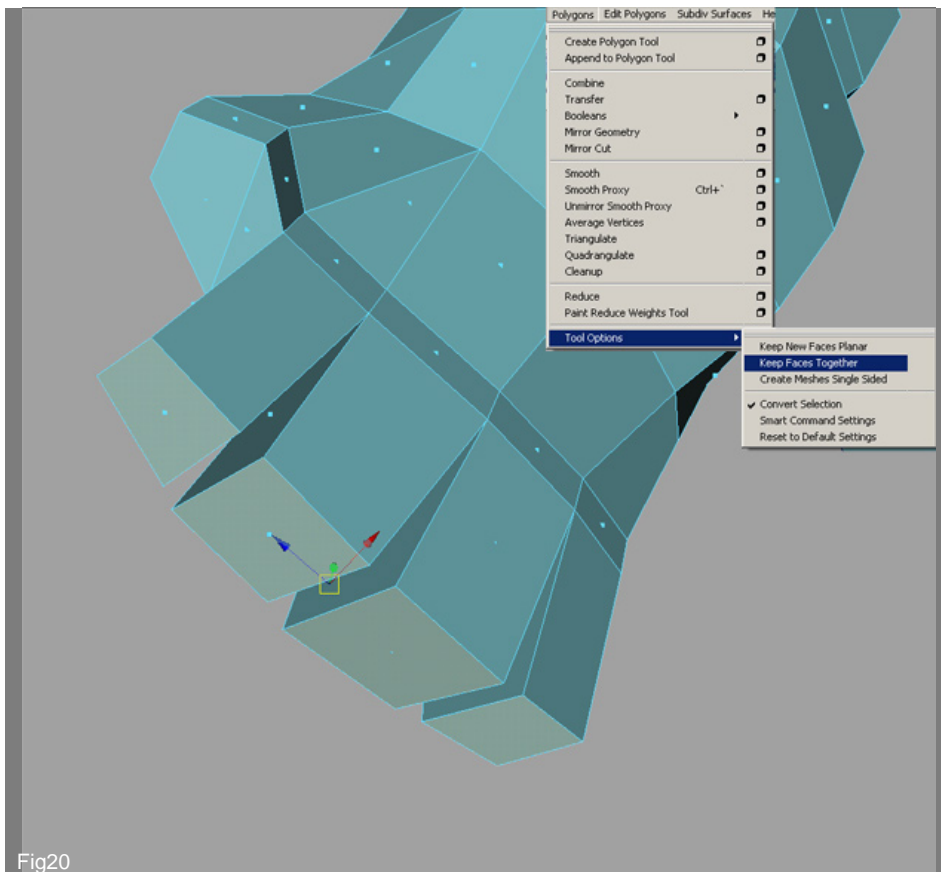

Fig20
19. Now we can start extruding the fingers. Before doing this, be sure that you've unchecked "Polygons>Tool options>Keep Faces Together". This way you are going to split into, two every common polygon from between the fingers. (Fig20).